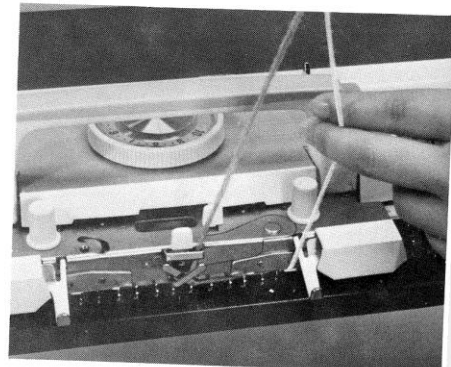

Fig.101
- e) Take off the contrasting colour yarn from left hand subsidiary feeder, and put it into the right hand sub-feeder. (Fig.101)